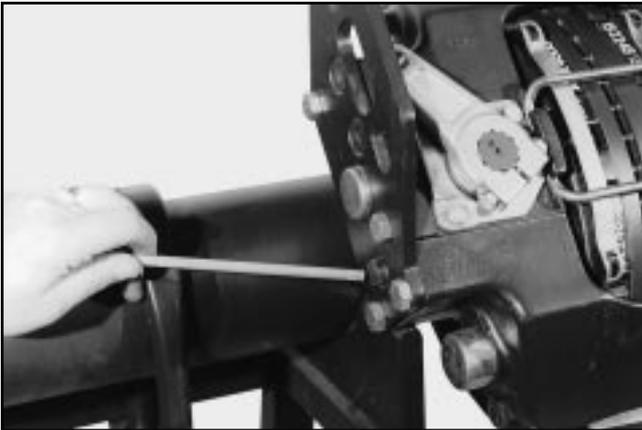

FIG. 12
Access for the hexagon key is gained by removal of the blanking plug (Fig. 12) in the back plate.
- Remove the adjuster plug from the air chamber bracket (Fig. 12).